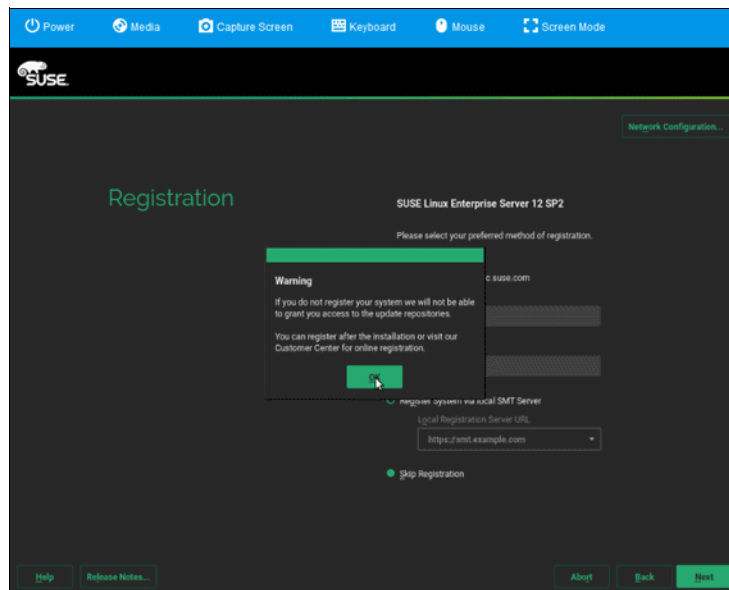

Figure 6-43 Registration option
10. Either register or skip the registration on the following screen. For this installation the registration was skipped as shown in Figure 6-43. Select **OK** then **Next**.